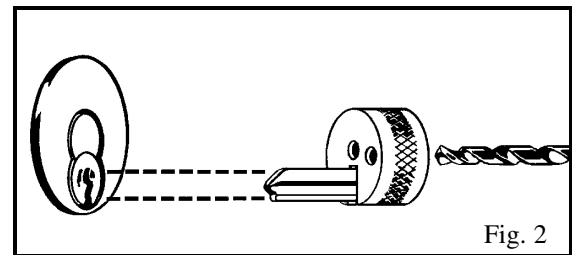
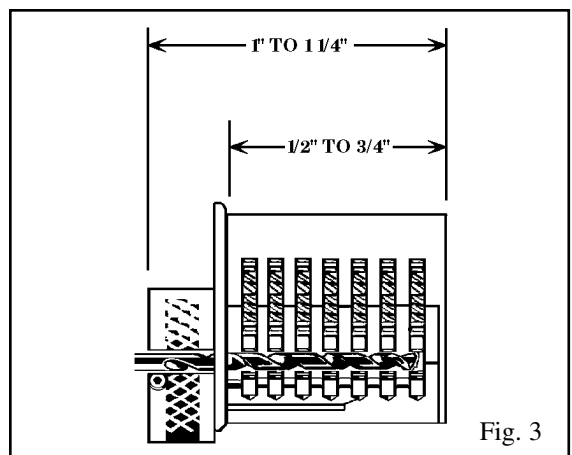

Fig. 2
Fig. 3
2. Place CDJ-3 into the keyway and drill a 3/16" diameter hole through the face of the lock to a depth of 1/2" to 3/4". See Fig. 2. The exact depth can be reached by marking the point on the drill bit which is between 1 and 1 1/4" inches from the tip. Doing this will compensate for the 1/2" thickness of the drill jig. See Fig. 3.